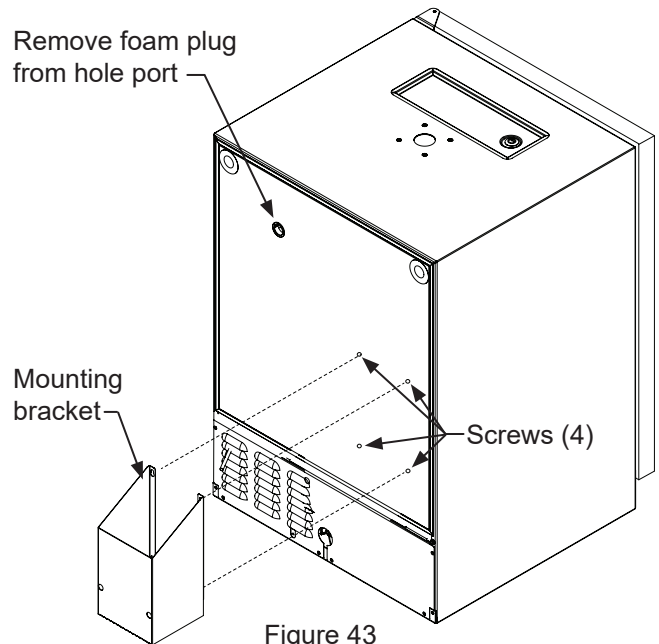

Figure 43
Mount the (4) screws (#10-32 x $\frac{3}{4}$ " flathead machine screws) provided with the bracket in the rear of the appliance, see Figure 43. Do not completely tighten. Place the keyhole slots in the flanges of the bracket over the four screws and tighten them to secure the bracket to the back of the cabinet. The bracket can also be fastened to adjacent cabinetry using the provided #10 x $\frac{3}{4}$ " wood screws.
The foam insulation plugs provided in the portholes are **CRITICAL** to proper functioning of the unit and preventing frost build up that can cause damage to the unit and/or refrigerator contents. **ALWAYS** reseal the gas line porthole (Figure 43) with the provided insulation plugs once all lines have been properly installed.